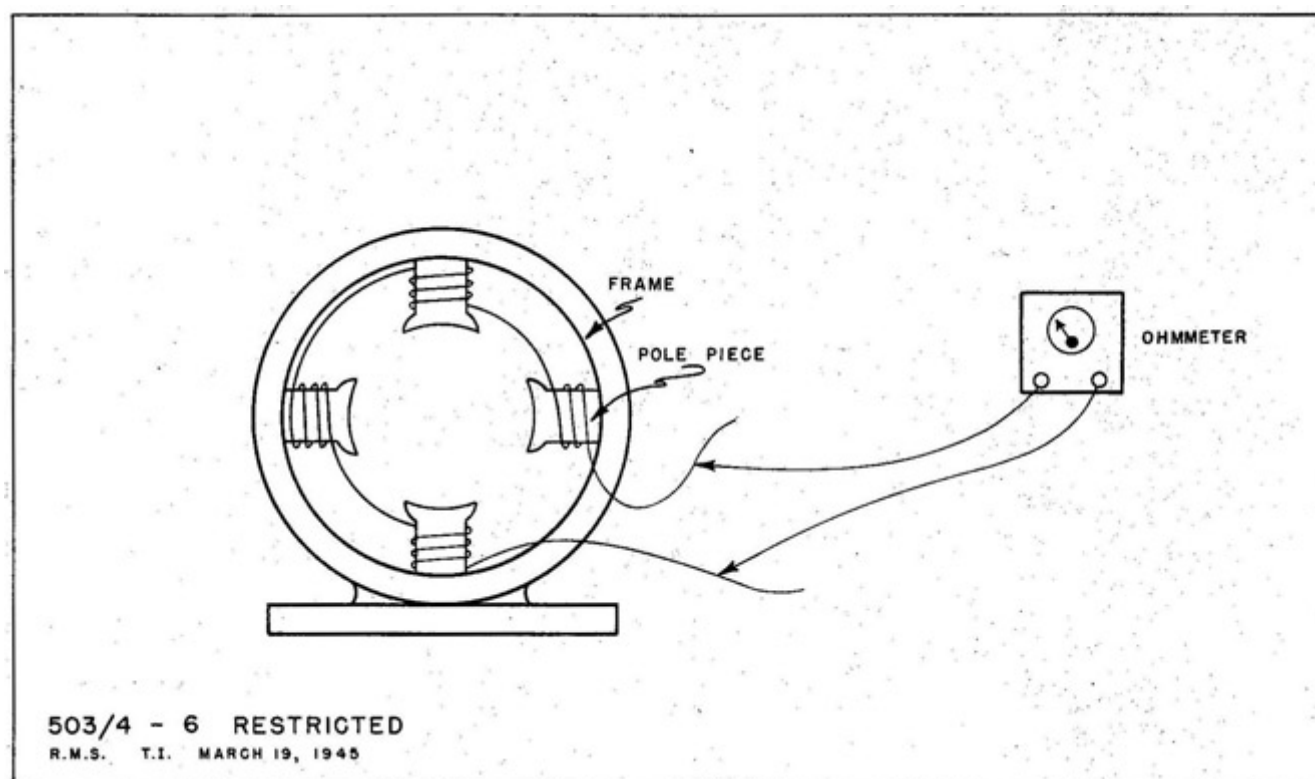

Fig. 6 Testing for open or shorted field coils.
- (b) Test with an ohmmeter as shown in Fig. 6.